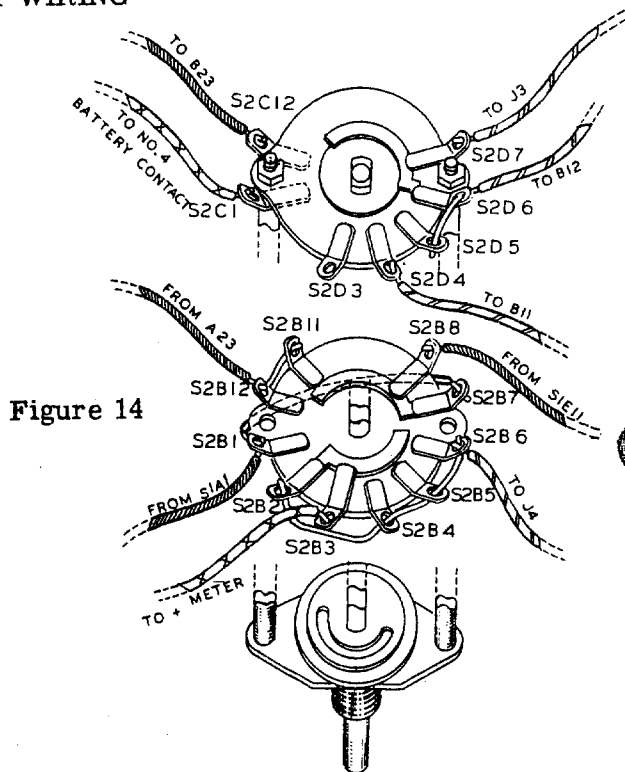

Figure 14
NOTE: The function switch when mounted has very little clearance between it and the side of the case. Consequently the wiring along the side of the switch, numbering from 1 to 6, must be kept close to the switch and the switch terminals must not be bent outward. See Pictorial 1 and Figure 14.
- () Connect a bare wire to S2B2 (S). Run wire down below the switch deck to clear S2B3 and over to S2B4, 5, and 6. Solder all but S2B6.
- () Connect a bare wire from S2B11 (S) to S2B12 (NS).
- () Connect a bare wire from S2D5 (S) to S2D6 (NS).
- () Connect a bare wire to S2B7 (S). Cover wire with a 2" length of spaghetti and run under switch deck to S2B1 (NS). See Figure 14.